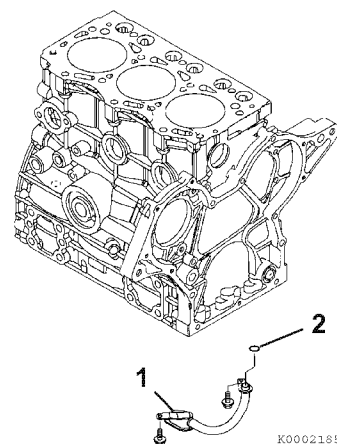

Figure 6-46
4. Remove the oil pickup tube (1, **Figure 6-46**) and O-ring (2, **Figure 6-46**).